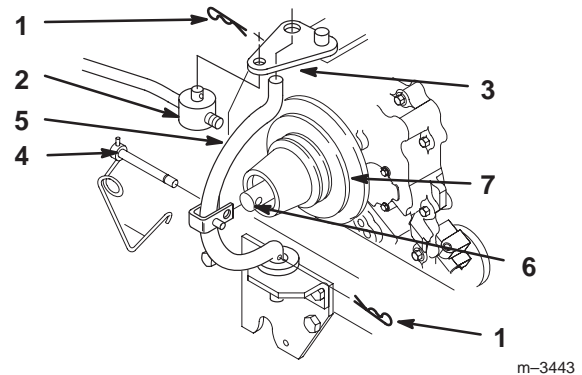

Figure 34
4. Unlatch and remove locking clevis pin that secures yoke assembly to clutch shaft. Pivot yoke out and forward to remove from clutch shaft and engagement plate (Fig. 34).
5. Replace belt in inside pulley groove (Fig. 34).
6. Assemble yoke and engagement plate and attach locking clevis pin, trunnion and hairpin cotters to secure (Fig. 34).